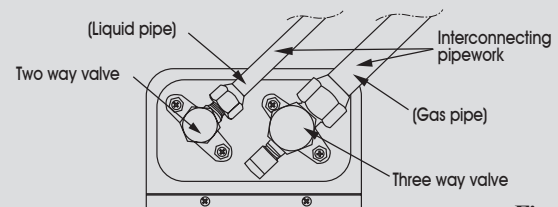

Figure 16
- Tighten the flare nut of the connection pipe at the outdoor unit valve. (Figure. 16)